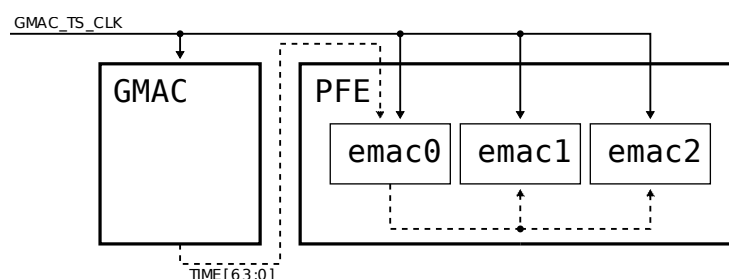

Figure 6.1: S32G2 IEEE1588 clock distribution
S32G platform allows multiple clock configurations depicted in figure 6.1.
6.1.1 Internal Timestamp Mode(full line figure 6.1)
6.1.2 External Timestamp Mode(dashed line figure 6.1)